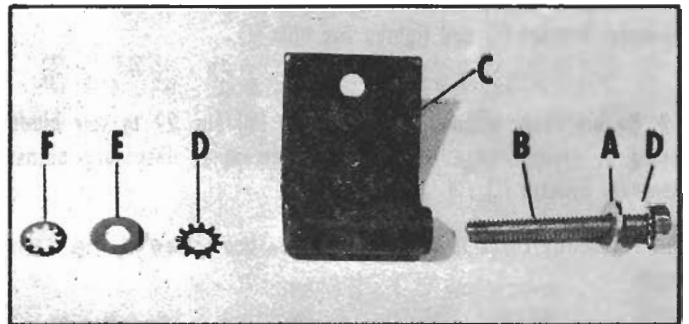

Fig. 17
3. Insert a 1/4" external tooth lockwasher (D) and a 1/4" steel washer (A) onto the 2" long hex head screw (B) Fig. 17, and insert the screw (B) through the spreader bracket (C), as shown. Place the 1/4" external tooth lockwasher (D), 1/4" steel washer (E) and the 1/4" internal tooth lockwasher (F) on end of screw (B).